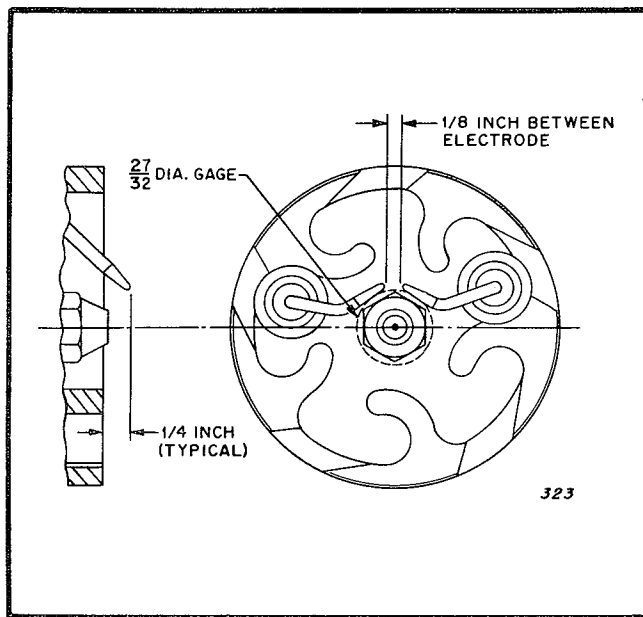
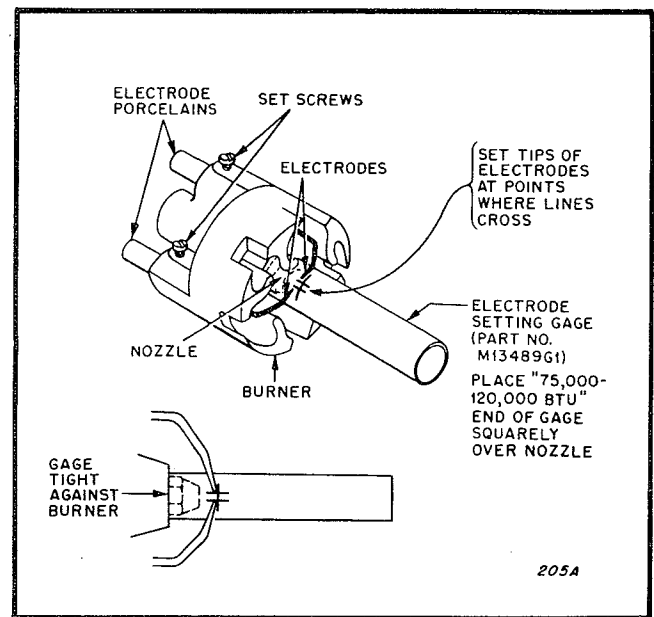

Figure 4. Electrode Setting Diagram
Figure 5. Use of Electrode Setting Gauge
3. Refer to Figure 4 for electrode settings. Figure 5 shows how to use the Electrode Setting Gauge, Part No. M13489G1, which is available from your dealer. Use the 75,000 - 120,000 BTU end of the gage when setting the electrodes on these heaters.